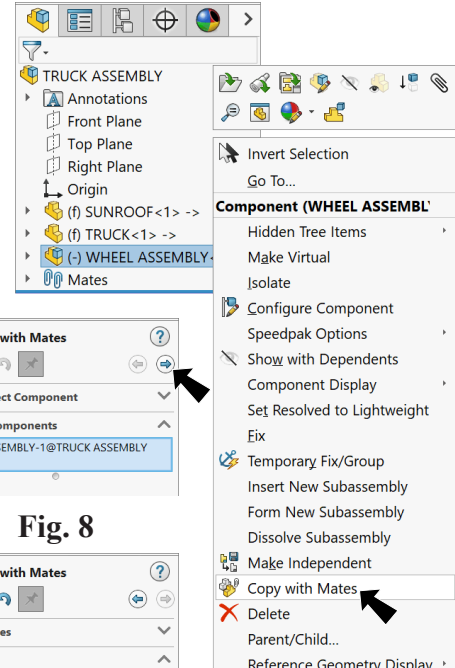

Fig. 7
Step 3. **Right click Wheel Assembly** in the Feature Manager and click **Copy with Mates** on menu, Fig. 7.